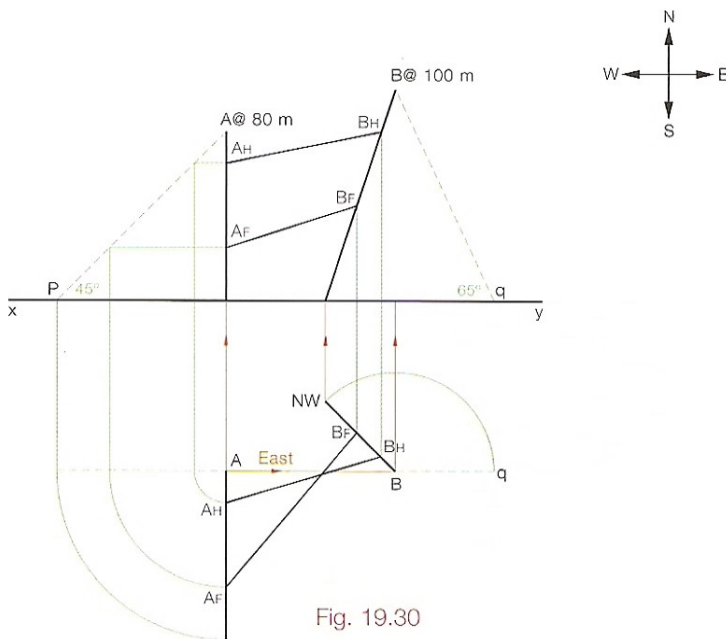

Fig. 19.30
- (5) Borehole B is found in a similar fashion. The points on the headwall and footwall are given as altitudes. These vertical heights are projected horizontally onto the actual borehole and then down to plan.
- (6) $A_H B_H$ and $A_F B_F$ are treated as skew lines. The strike dip and thickness are found as explained in Fig. 19.30.